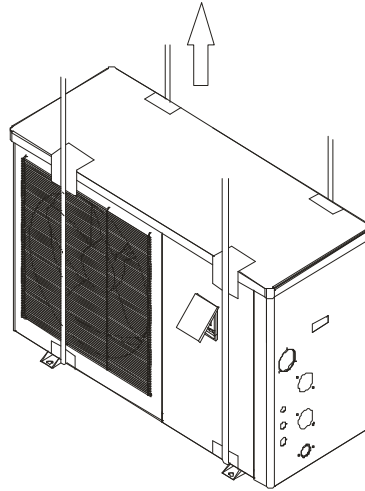

Figure 5 Lifting diagram
- Use four or more soft lifting belts to move/carry the units (see Figure 5).
- Do not handle, move or lift the unit by holding the water inlet and outlet pipes: use only the holes on the base (see Figure 5)